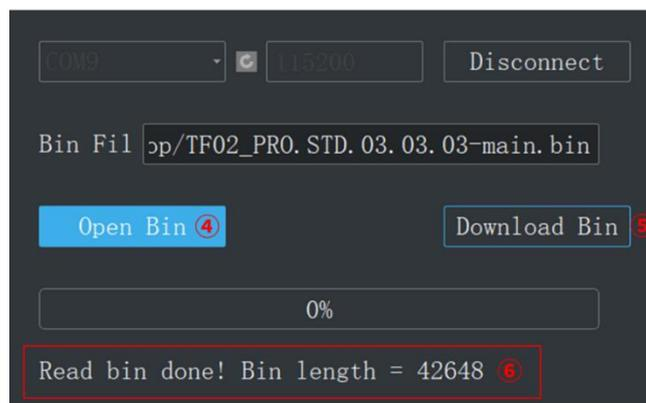

Figure 6-2 Upload firmware file
- 2) Click "④ Open Bin" to choose the updating firmware, the message "⑥Read bin done" will be displayed after the file is uploaded. Then click "⑤ Download Bin" to start upgrading. As shown in Figure 6-2.